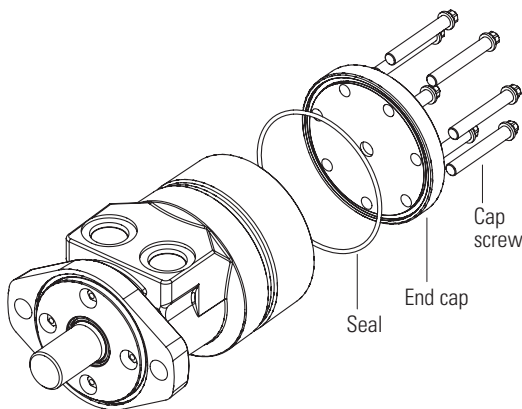

Figure 20
- Install end cap, see Figure 20.